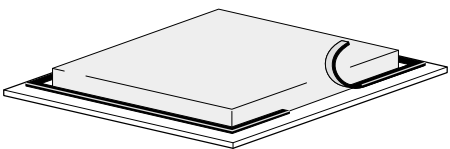
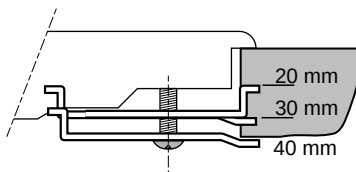

fig. 5
fig. 6
- Saw out an opening in the worktop with the dimensions shown in illustration 2. Stick the strips of sealant to the underside of the hob (see fig. 5), then place it in the opening. Fix the hob in the worktop by tightening the 4 clamps (see fig. 6).